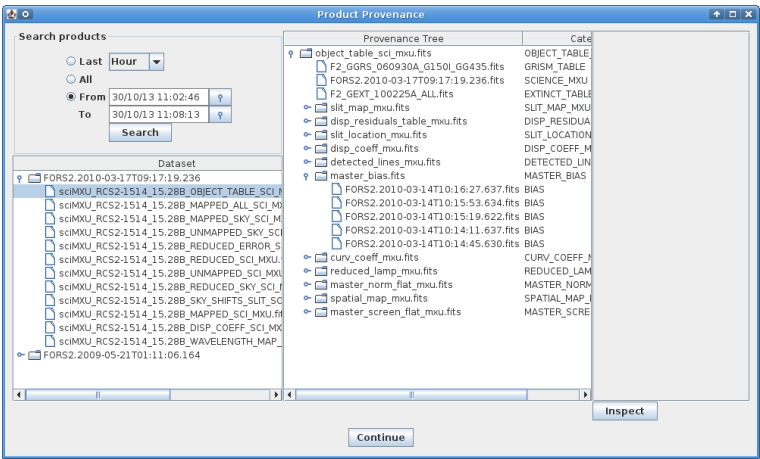

Figure 4.5: The Provenance Explorer shows all datasets reduced in previous executions together with the full reduction chain for all the pipeline products.
10. When the reduction of the current `DataSet` finishes, a pop-up window called *Provenance Explorer* will appear showing the datasets which have been so far reduced together with the list of final products. This actor allows the user to inspect the final data products, as well as to search and inspect the input data used to create any of the products of the workflow. Figure 4.5 shows the *Provenance Explorer* window.